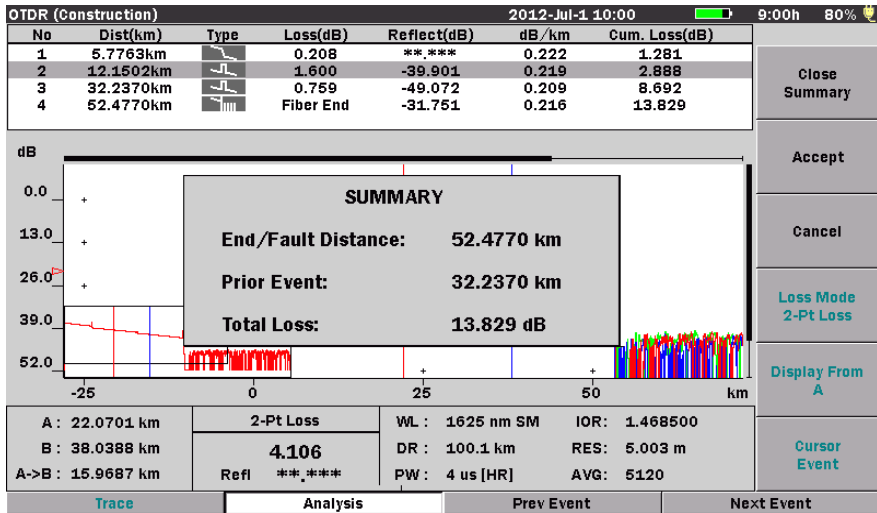

Figure 6-24: OTDR (Construction) Summary screen
10. At the conclusion of the data collection and analysis, the OTDR (Construction) Summary screen appears (see Figure 6-24 on page 6-63).